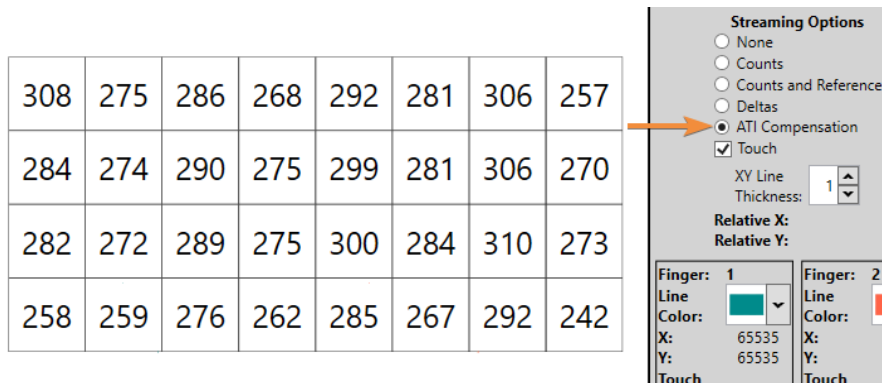

Figure 4.2: Read ATI Compensation Values
9. Read the ATI Compensation values as illustrated in Figure 4.2.